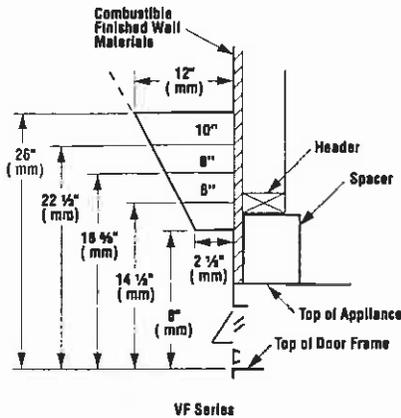

Figure 2
Ensure the minimum clearances shown in *Figures 2 and 3* are maintained.
In order to install the appliance facing flush with the finished wall, position the framework to accommodate the thickness of the finished wall (Refer to Figures 2 and 3).
Step 9. Secure Heater – Bend the tabs down (Figures 2 and 16). Using two (2) screws securely tighten the appliance to the platform.